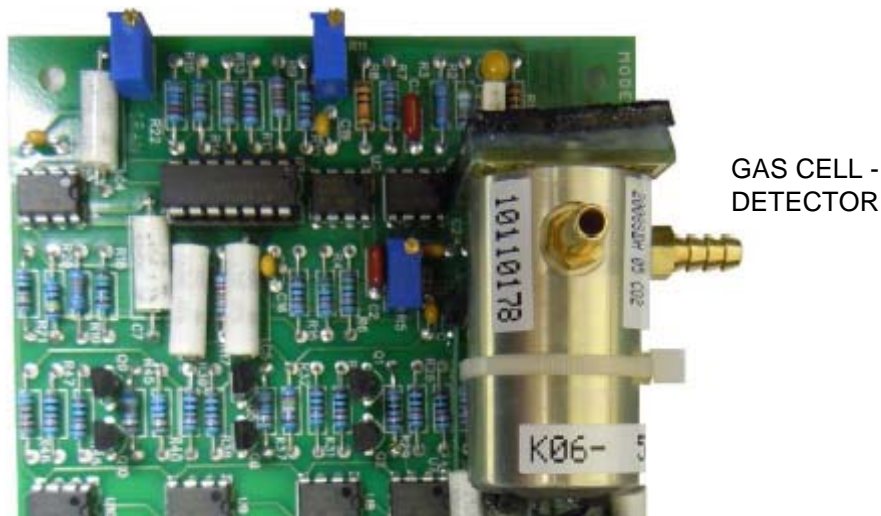

FIGURE 3
D. Gas Cell/Detector (see Figure 3)